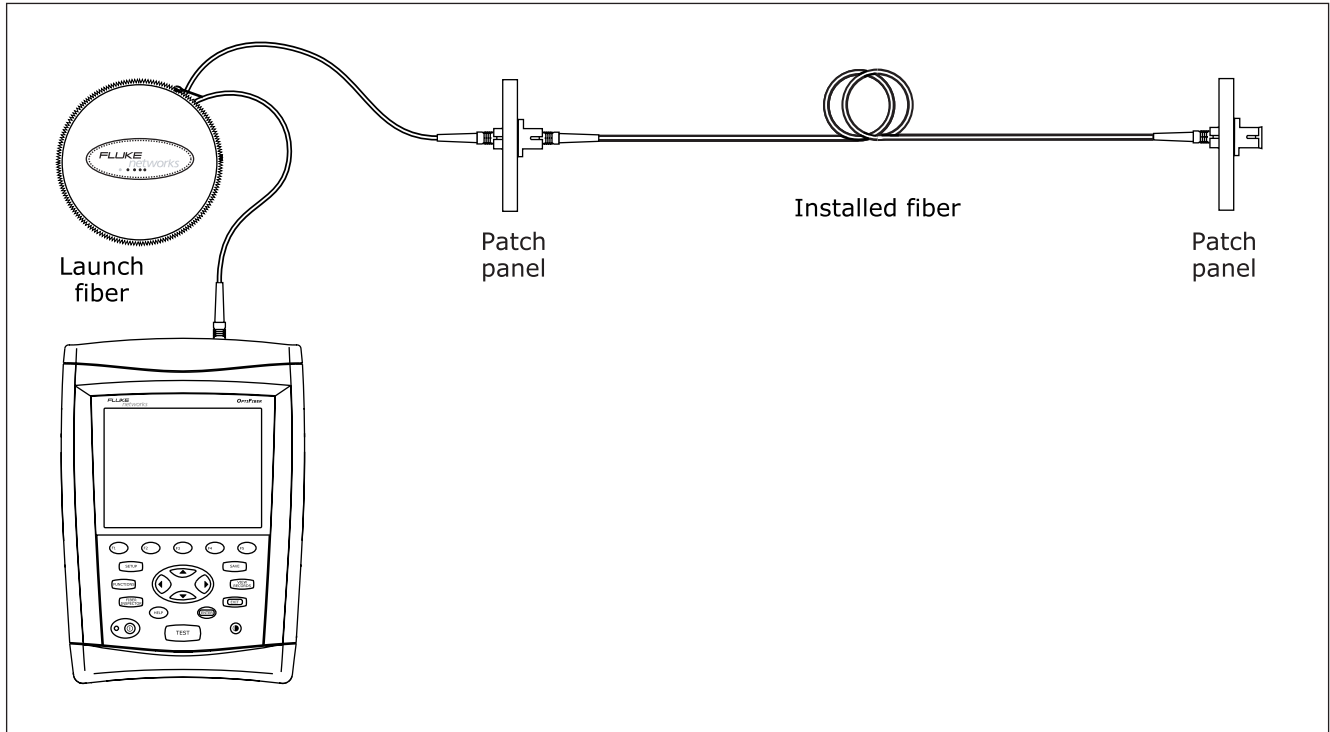

Figure 3-6. Connecting the OTDR to Installed Fiber (no receive fiber)
4. Connect to the tester's OTDR port to the cabling as shown in Figure 3-6, 3-7, or 3-8.